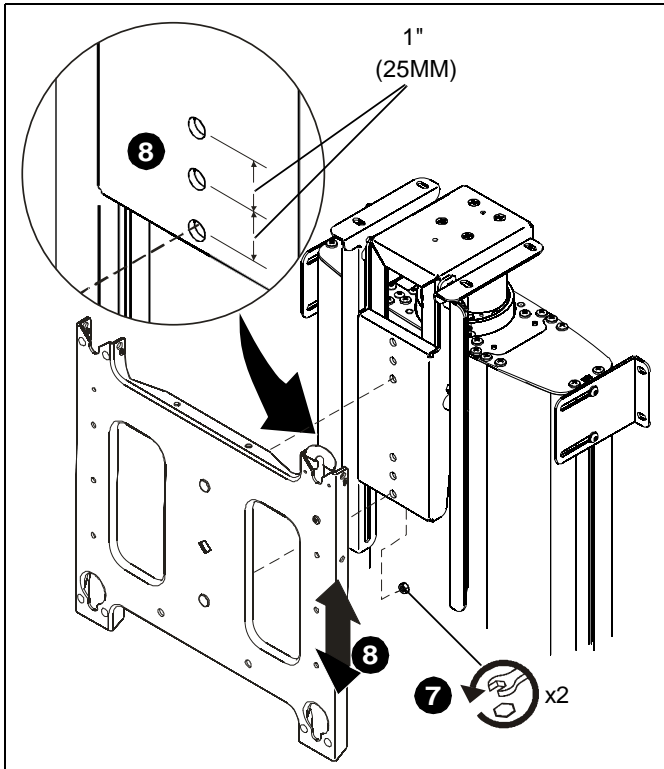

Figure 4
7. Remove two locknuts securing faceplate to faceplate mounting bracket. (See Figure 4)
8. Move faceplate up one set of holes to adjust location 1" or two sets of holes to adjust 2". (See Figure 4)